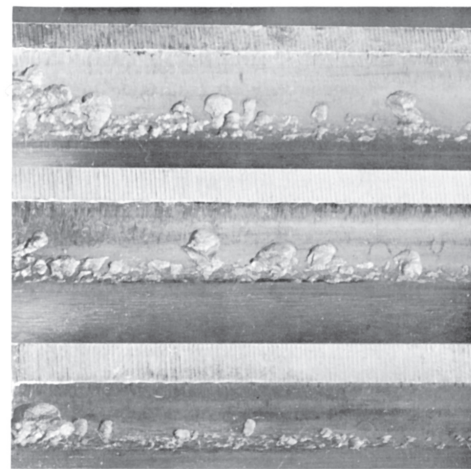

Figure 54
- (2) Pitting is a type of surface fatigue which occurs when the endurance limit of the material is exceeded. It shows up as small cavities along the surface of the teeth. The type of pitting shown in Figure 54 is usually caused by torque overload. Continued overload may result in gear tooth failures.